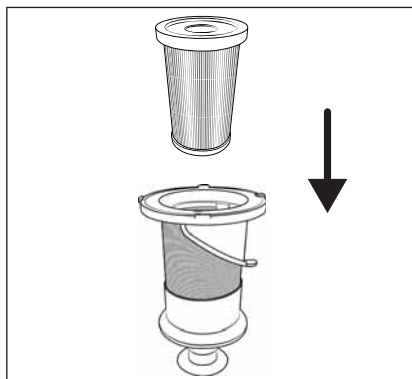

Fig. 24
① Note
- 7) Insert the EPA filter **5** into the stainless steel filter **6** (see Fig. 24).